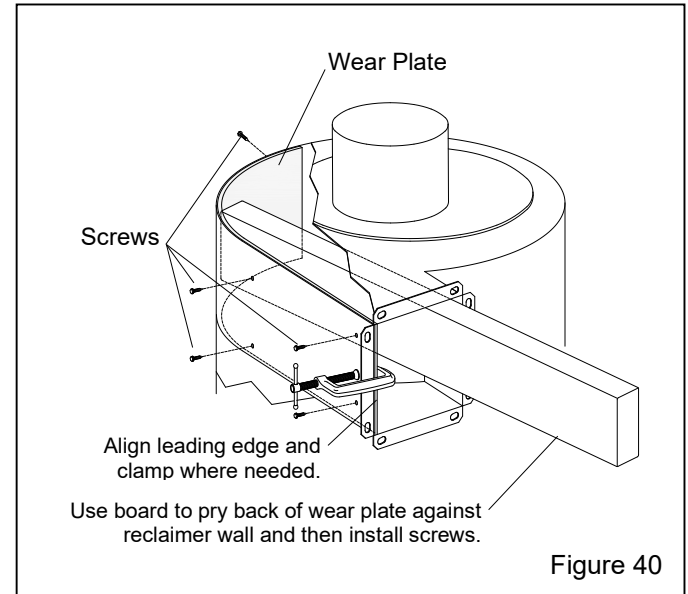

Figure 40
7.11.6 Use a board or similar object as leverage to pry the wear plate against the inner wall of the reclaimer, as shown in Figure 40.